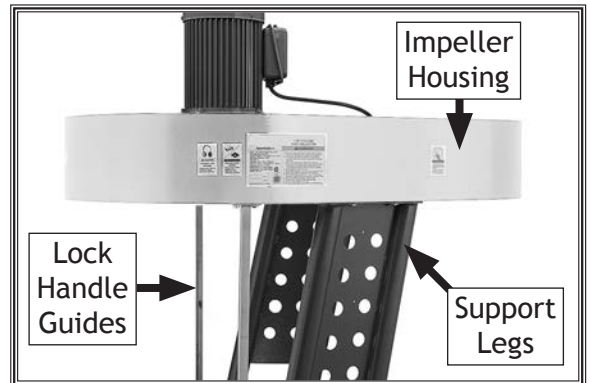

Figure 12. Impeller housing positioned on support legs and lock handle guides.
- With help of two assistants, lift impeller housing and onto support legs and lock handle guides (see **Figure 12**).